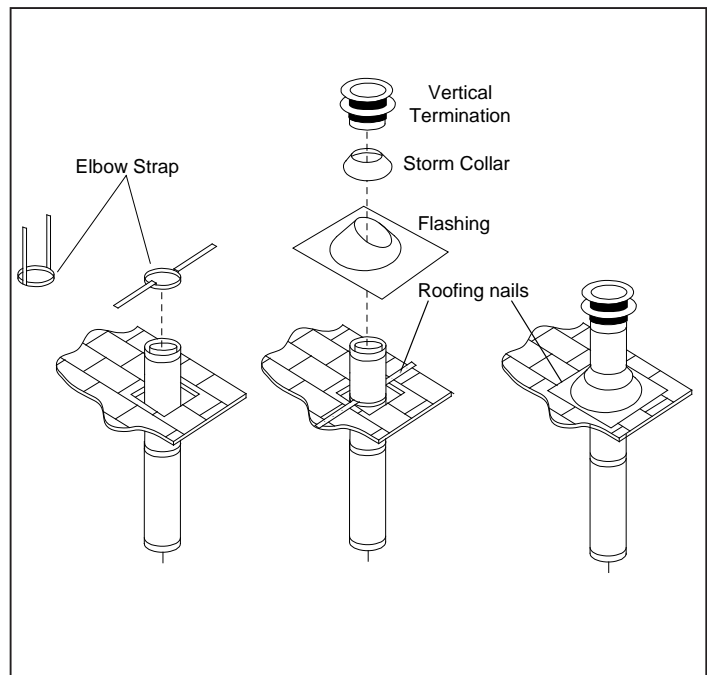

Figure 69: Vertical Vent Termination
- Step 4.** Measure roof pitch. Select the proper flashing and storm collar and determine the height above the roof (see Figure 69). A non-corrosive pipe material must be used for all exterior pipe lengths. Seal nail heads with silicone.